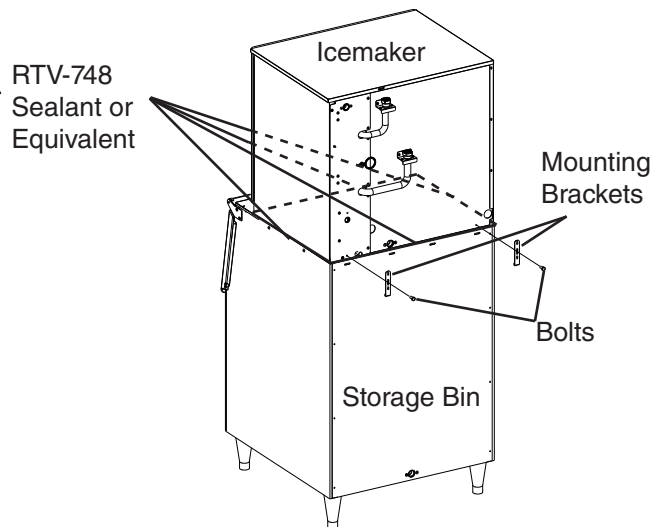

Fig. 6b
- 5b) **Storage Bin:** Secure the icemaker to the storage bin using the 2 mounting brackets and the bolts provided. See Fig. 6b. Seal the outer perimeter of the icemaker to the storage bin with RTV-748 sealant (provided) or equivalent.